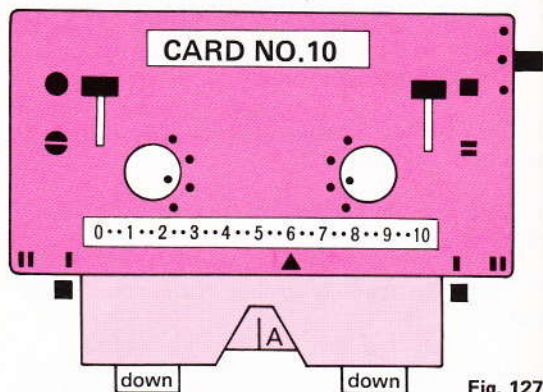

Fig. 127
- Set carriage as in fig. 127. Thread yarn in thread mouth.